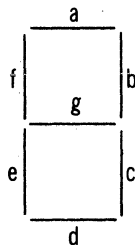

Figure 3-8 LED Segment Identification
3. The LSDEC (K1-K4) on logic board B may be tested by comparing the BCD inputs with the abcdefg outputs. Use Figure 3-8 to determine which output lines are required to illuminate the desired segments.